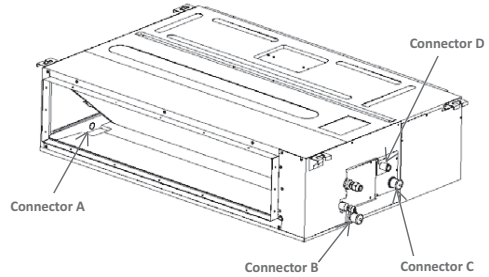

Fig. 21 – Connection of drain pipe to condensate lift pump sizes 24–58
- a. Connect the drainpipe to connector D (see Fig. 21).